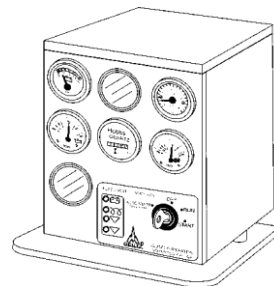

Figure 10. Control Box (New Style)
1. Insert ignition key into the ignition switch located on the control box (Figure 10).